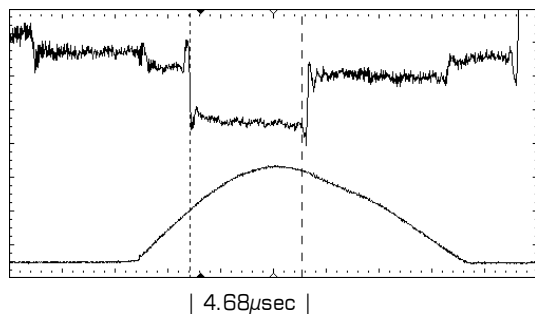

Fig. 1 - Horizontal Phase Adjust
4. Adjust *Horizontal Phase* (parameter #4) so that the time delay between the leading edge of horizontal sync (CH1) and the midpoint of the filament pulse (CH2) is 4.68μsec ($\pm 0.5\mu\text{sec}$), as shown in Figure 1.